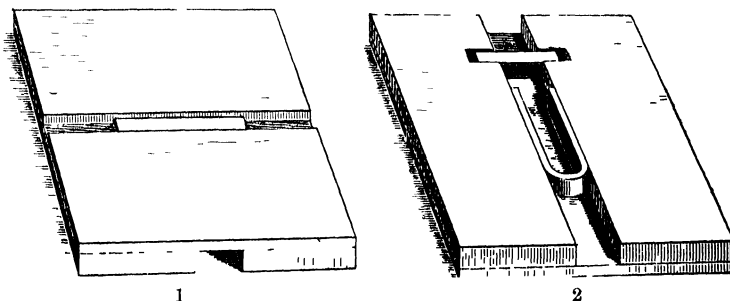
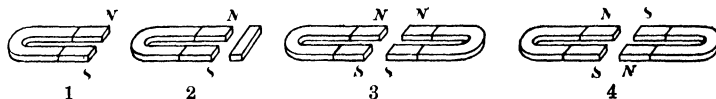

FIG 43
FIG 44
**I. The magnetic field about a bar magnet.** (a) Lay a bar magnet in the groove of the board shown in (Fig 43, 1) Put a sheet of blue-print paper over the magnet, from a sifter containing iron filings sift the filings evenly, but not too thickly, over the paper from a height of a foot or two Tap the paper gently with a pencil The filings will be found to have arranged themselves in lines running in symmetrical curves from one pole around to the other
**II The magnetic field about certain combinations of horseshoe magnets** Using the reverse side of the board used in I and the horseshoe magnets of the improvised D'Arsonval of Exp 30, make blue prints or drawings of each of the illustrations in Fig 44 Be sure to mark the location of the *N* and *S* poles on each blue print or drawing In 2, place the bar of soft iron about 1 in from the end of the magnet In 3 and 4, place the ends of the magnets about 2 or 3 in apart
e What property of iron does Fig 44, 2, show?
\* To make boards for this experiment make upper pieces of Fig 43, 1, of same thickness as bar magnets and separate them by the width of the magnet For the lower pieces of Fig 43, 1 (upper of Fig 43, 2), use pieces of same thickness as horseshoe magnets and separate them by the width of the horseshoe magnet A notch cut into these pieces receives the soft iron of Fig 44, 2